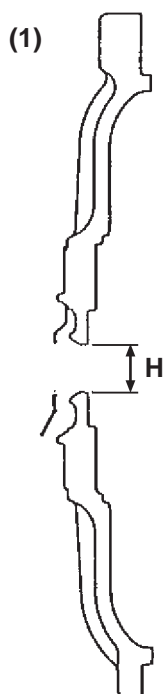

Figure 9-8
2. Measure the seal ring insertion hole (**Figure 9-8, (H)**) on the compressor side. Replace the seal ring if the measured value exceeds the wear limit.